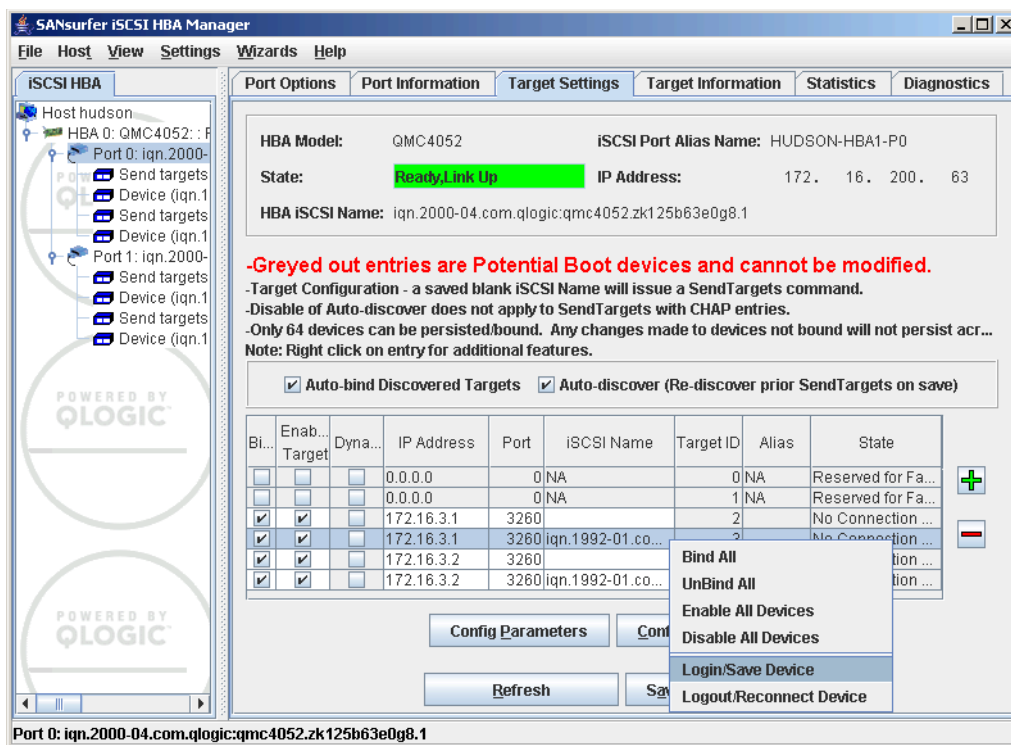

Figure 21-60 SANsurfer - Login into iSCSI target
15. After configuring the authentication settings on the DS3300 and the HBA, a login to each target can be performed. In SANsurfer, select the first iSCSI port of the HBA. On the Target Settings tab, right-click a line that contains an IQN. From the context menu, select **Login/Save Device**, as shown in Figure 21-60. This will establish a new iSCSI session with the target using the new security settings.